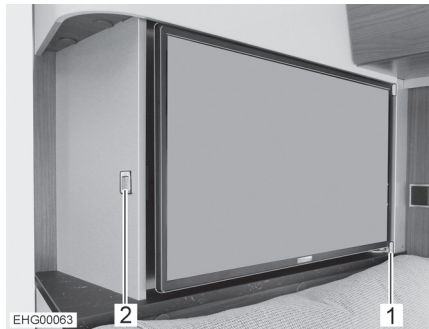

Fig. 86 Flat screen
The flat screen is secured on the side by a guide rail (Fig. 86,1).
- Press the release button (Fig. 86,2).
- Pull flat screen out of the guide rail (Fig. 86,1), into the desired position.
- Push flat screen back until it engages in the guide rail (Fig. 86,1) on the side.